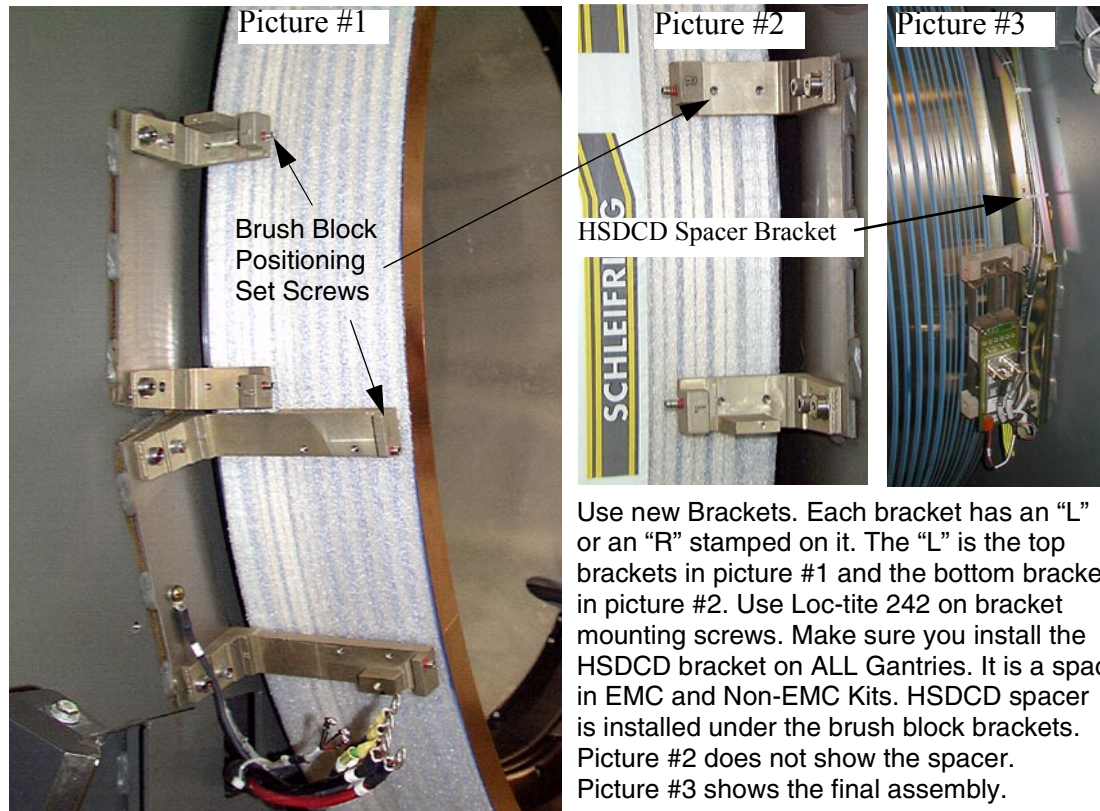

Figure 2-14 Brush Block Bracket Installation
- 8.) Install the Brush Block mounting brackets and HSDCD bracket. Reference Figure 2-14.
- 1.) The Gantry contains three (3) brush blocks: two (2) for signal and one (1) for power.
- c.) Install all four (4) screws, but do not tighten.
- e.) Tighten all four (4) screws to 22 ± 3 in-lbs. (0.254 ± 0.035 m-kg)
- f.) Adjust the positioning set screws on the bracket to contact the brush block assembly. Set screws contain pre-loaded Loctite. Reference Figure 2-14 on page 30.
- e.) Tighten all four (4) screws to 22 ±3in-lbs. (0.254 ±0.035 m-kG)